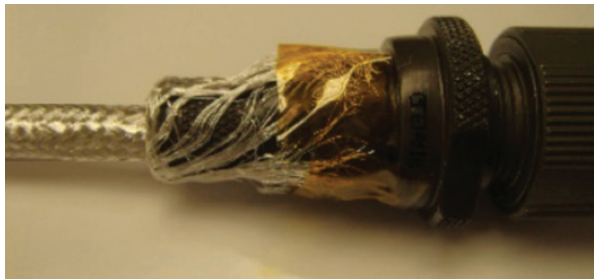

Figure 70: Returning braid to connector
- Slide the braid toward the connector, and use a braid brush or pick to brush it over the backshell (Figure 70).